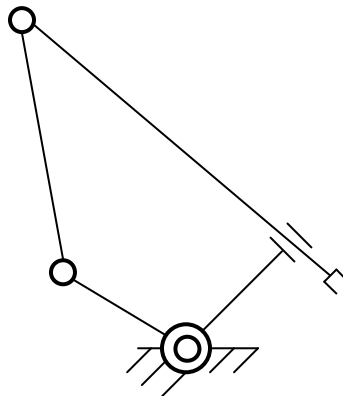

Fig. 1
- 4. Find the direct kinematics equation of the four-link closed chain planar arm shown in Fig. 1. The two links connected by the prismatic joint are orthogonal to each other.[16]